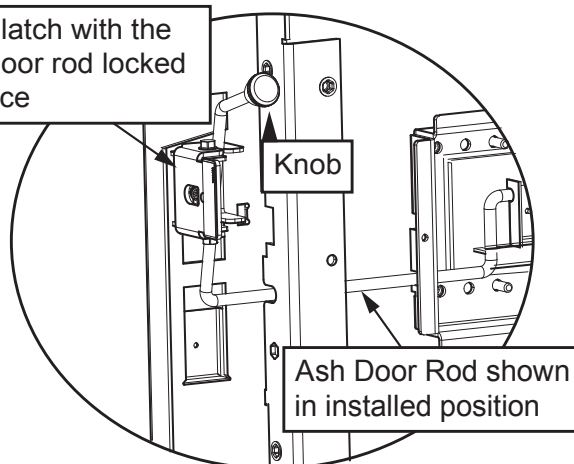

Figure 17.1
10. Add knob to handle rod (**Figure 17.1**).